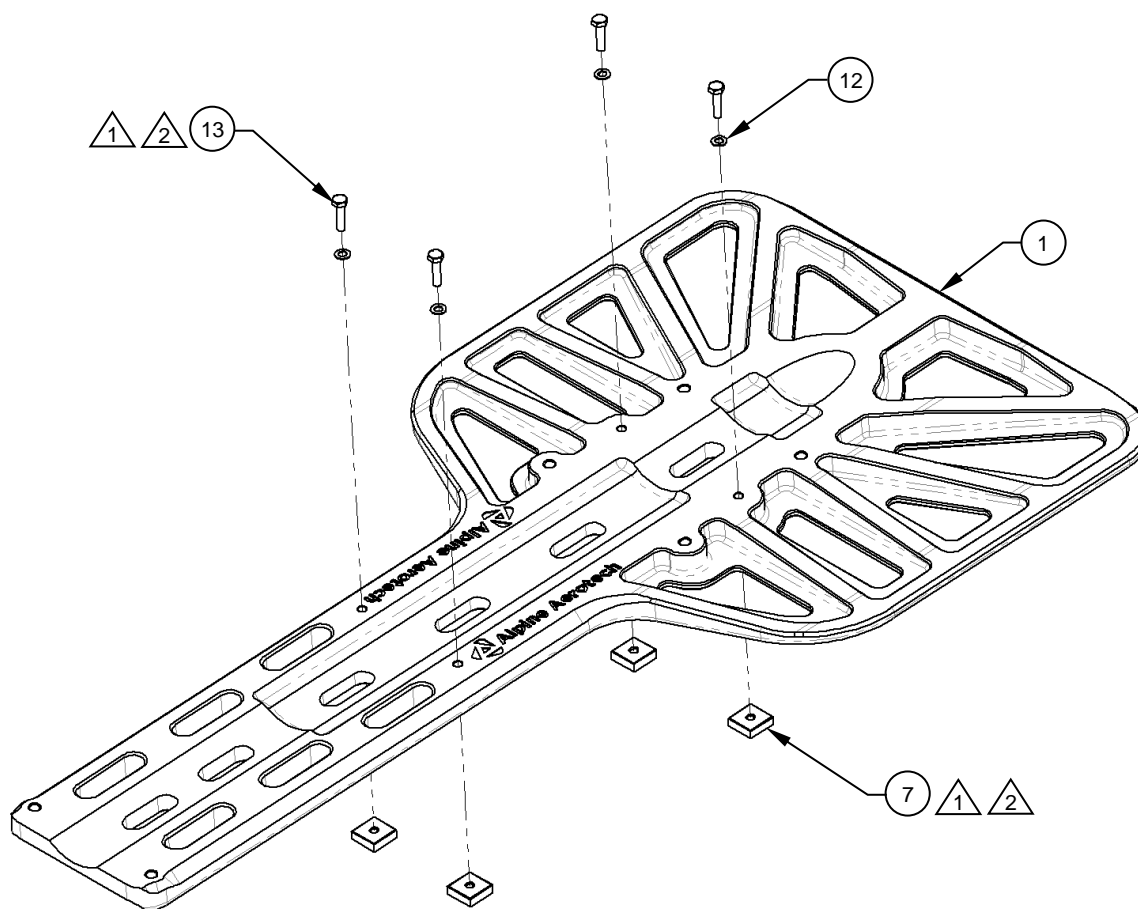

Figure 2
1. Removal of the Grippers (Item 7) can be performed with the Bear Paws (Item 1) installed on the aircraft or on the bench. If removing Grippers while installed on the aircraft, raise the aircraft and make it safe and ready for maintenance prior to proceeding. Reference Figure 2.
2. Remove Bolts (Item 13), Washers (Item 12) and Grippers (Item 7) from Bearpaw, Detail (Item 1). Reference Figure 2.